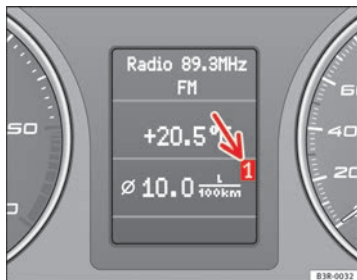

Fig. 59 On-board computer: memory 1
The numbers in the display ⇒ fig. 59 indicates which of the two memories is currently in use. The figure 1 means that the display is showing the information in the single journey memory (on-board computer 1). The figure 2 means that the display is showing the information in the total journey memory (on-board computer 2).
- Press the reset button **(B)** repeatedly until the on-board computer (memory 1 or 2) ⇒ page 85, fig. 59 is displayed.